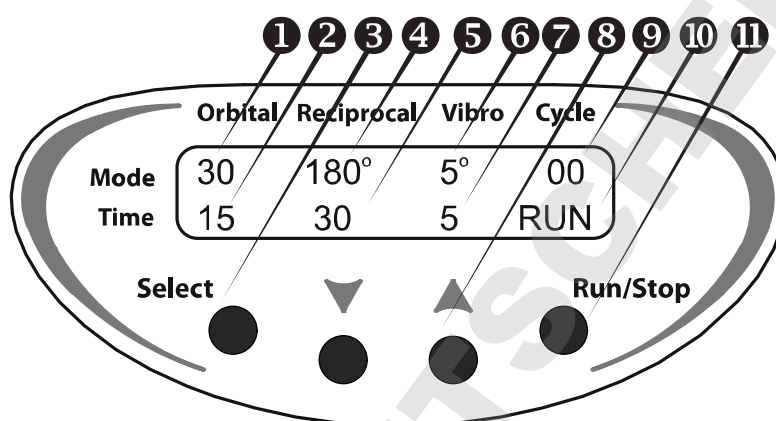

Fig.2. Front panel
- 4.4. Press the **Run/Stop** key (Fig.2/11) to start the program.
- 4.5. The platform motion will begin and the corresponding indication (operation mode – RUN (Fig.2/10), cycle countdown (Fig.2/9) and the changing time values) will be shown on the display.
- 4.9. If the number of cycles is not set (cycle number indicator (Fig.2/9) shows zero), pressing
- 4.11.1 Press **Select** key (Fig.2/⑨) to choose the parameter to change (the active parameter is blinking).
- 4.11.2 Use the **▲** and **▼** keys (Fig.2/⑧) to set the necessary value (pressing the key down for more than 2 sec will make the values change quickly).
- 4.11.4 It is necessary to set speed (Fig.2/①), turning angle (Fig.2/④, Fig.2/⑥), time for each motion type (Fig.2/②, Fig.2/⑤, and Fig.2/⑦) and number of cycle repetitions (Fig.2/⑩).